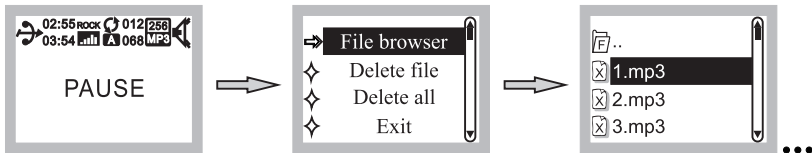

Fig. 25
- (1) File Brower: Press during playback and screen displays PAUSE. Press & hold to enter the directory option. Press or to sequentially select the directory option, Fig. 25.